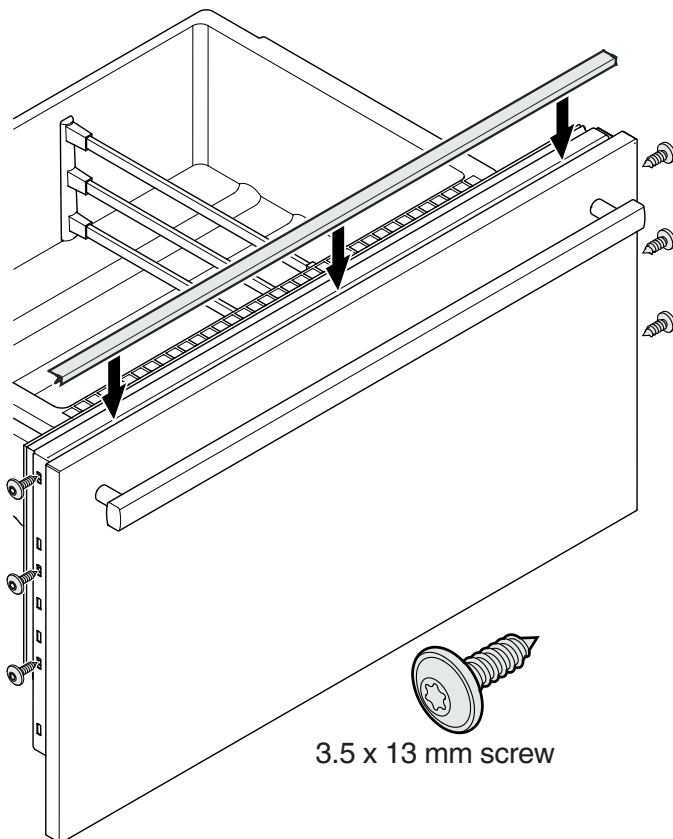

Figure 34
Mounting the Freezer Drawer Panels - Figure 34
1. Pull out the upper freezer drawer and screw on the panel with three screws at left and right hand side using the screws as shown in **Figure 34**.